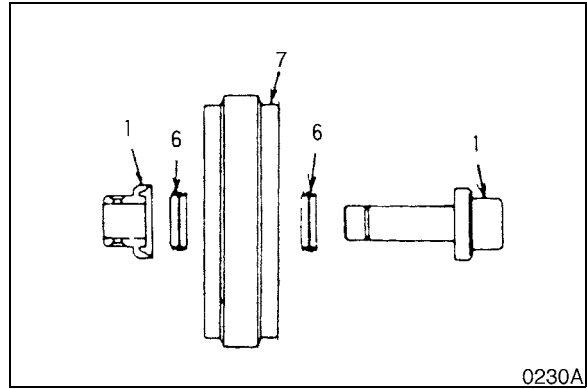

Figure 25
4. Install group seal (6, Figure 25) inside the idler (7) and bearing (1).